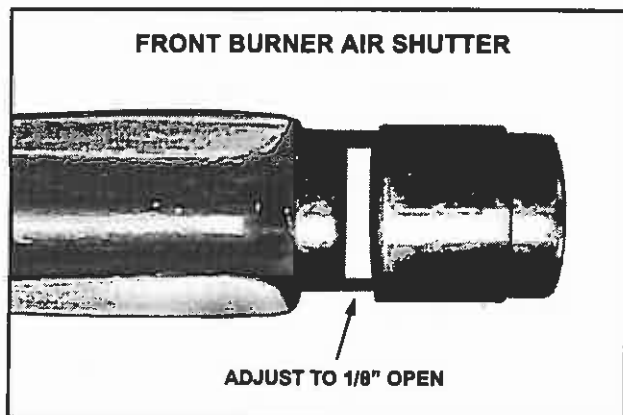

FIGURE 7
- i - Adjust the front burner air shutter so that it is open 1/8" as shown in figure 7. Reinstall the front and rear burners.